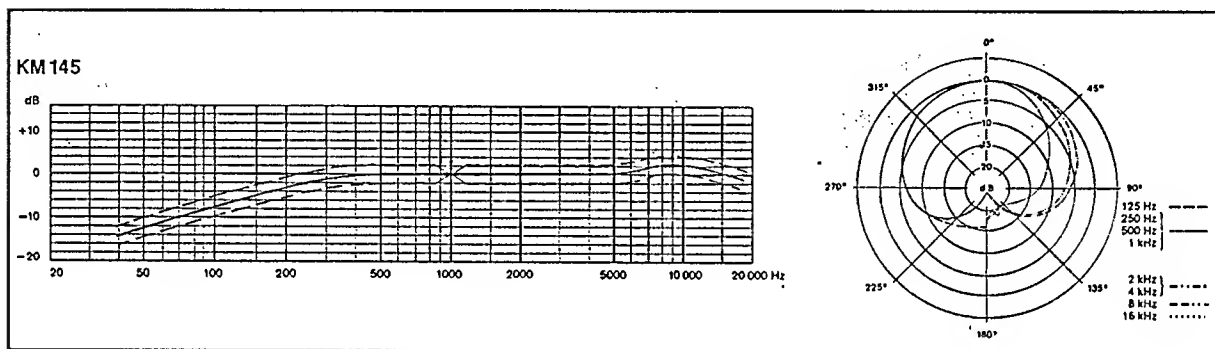

Fig. 7 Microphone with AK 45 speech cardioid capsule
- c) For extremely short speaking distances, and for cases where a bass lift would be undesirable, a pressure gradient receiver is required which, with reference to the free, level sound field, has a low-frequency roll-off (“speech cardioid”, Fig. 7). Here again, as a result of the proximity effect, level reproduction of the overall audible sound occurs first at a distance of about 15 cm from the sound source. This capsule likewise has a cardioid characteristic, being otherwise similar to the capsule described in b). The low-frequency roll-off is achieved by the use of a very tightly-stretched membrane. This receiver is thus noticeably less sensitive to low-frequency extraneous sounds, such as wind noise and solid-borne sound, than a cardioid microphone with a linear frequency response.